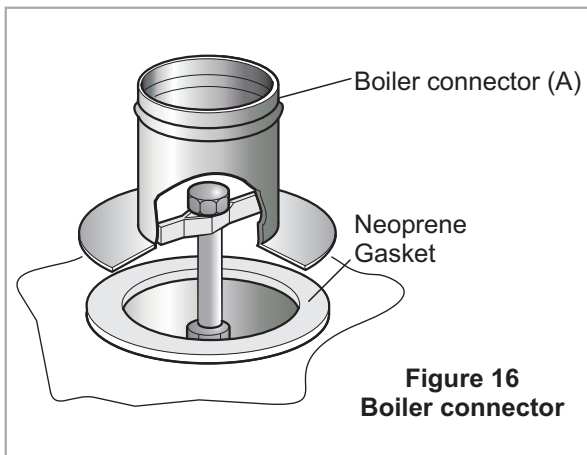

Figure 16
Locate the boiler connector (A) centrally into the gasket on the top of the boiler. Tighten the bolt to fix in place to the flue outlet. (see figure 16).